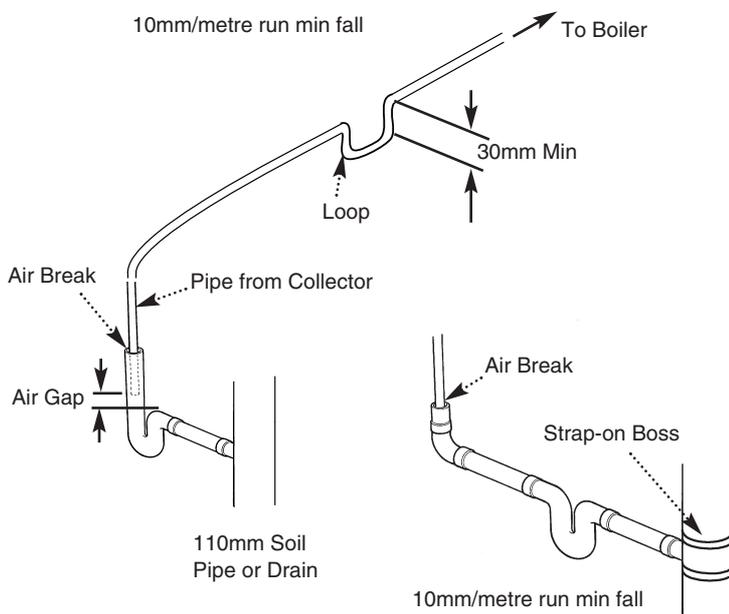

Fig. 14
7.11 Condensate Drain (Fig. 14)